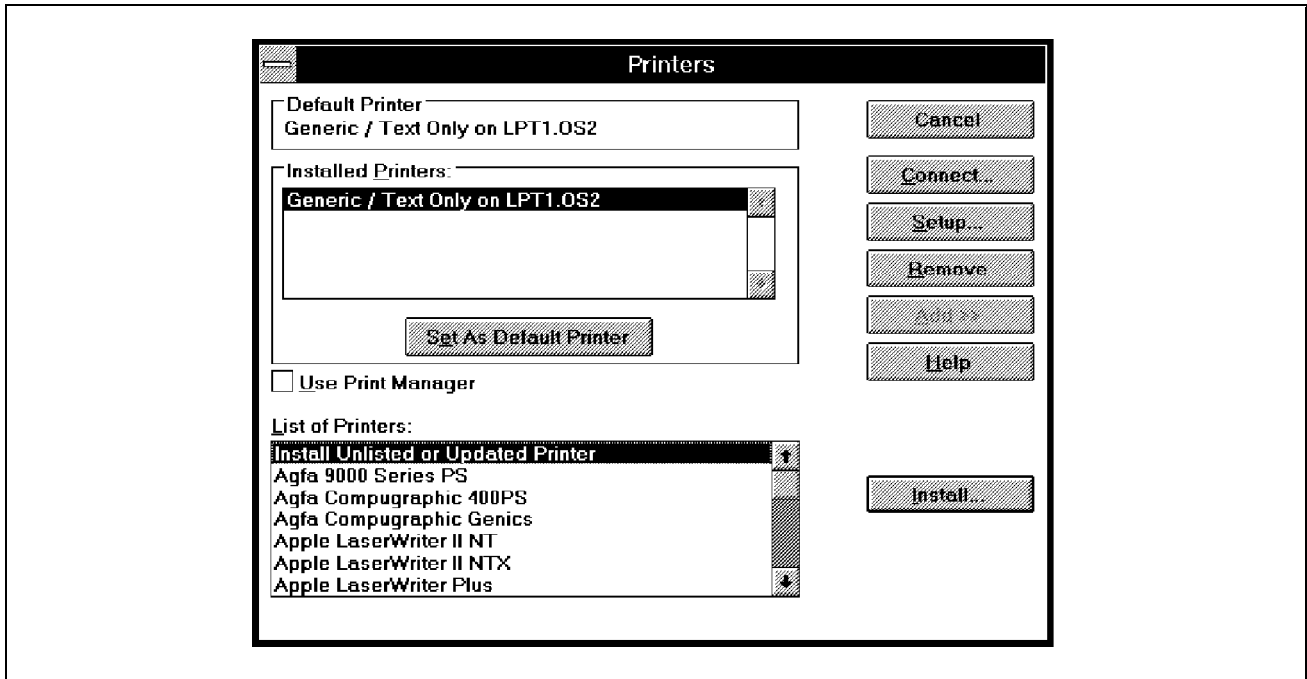

Figure 32. Installing a WIN-OS/2 Printer Driver Under WIN-OS/2
- Click on **Add**. A list of printer will be displayed as seen in Figure 32 on page 96.